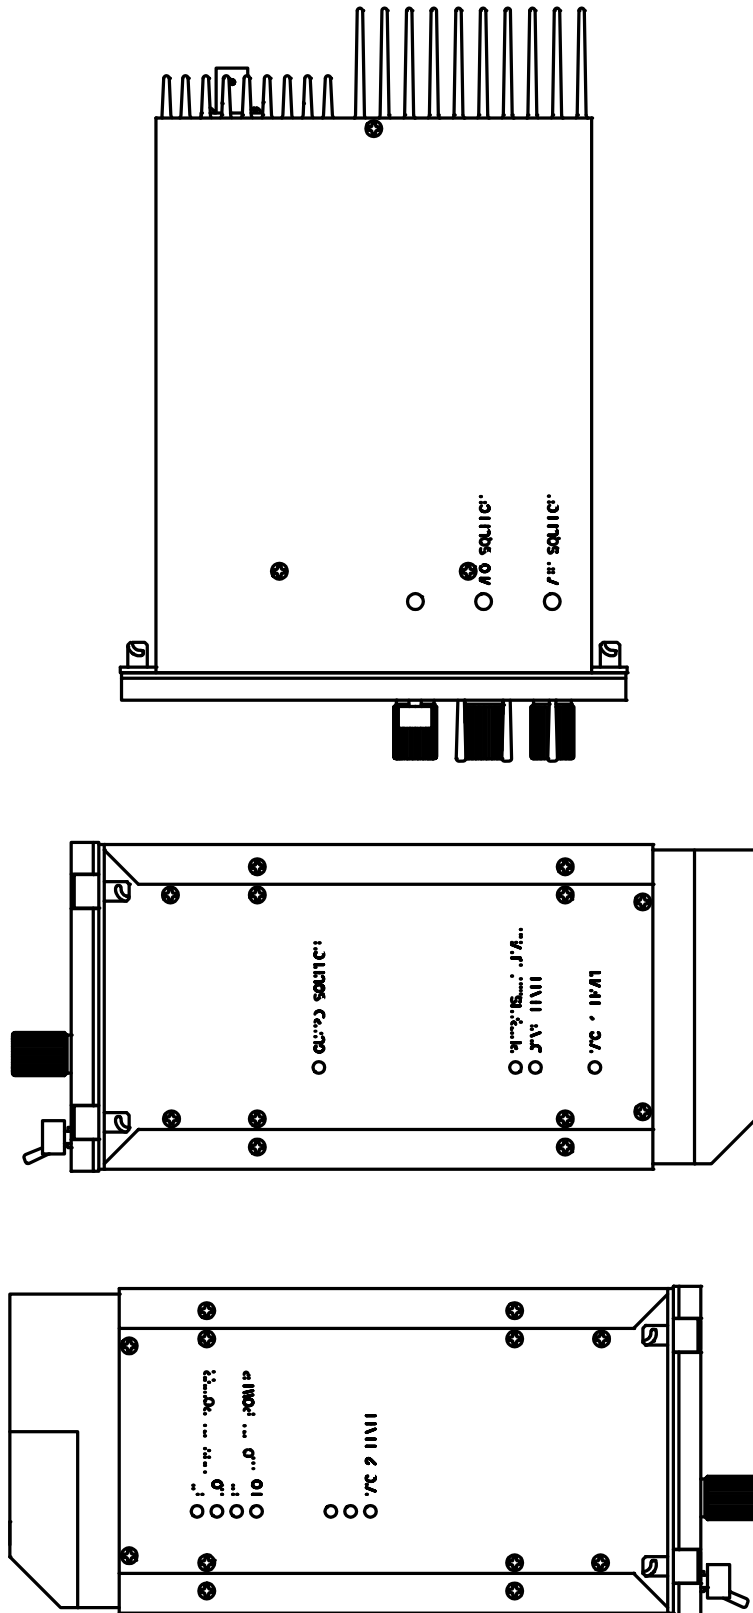

FIGURE 3.4 External Adjustment Access Holes
3. Adjust the microphone level potentiometer (Mic Level 1) through the access hole located on the right side of the chassis (see Figure 3.4) to produce a 2.7 kHz deviation.
3. If not, re-adjust receiver squelch potentiometer through the access hole located on the bottom or side of the transceiver chassis (see Figure 3.4).